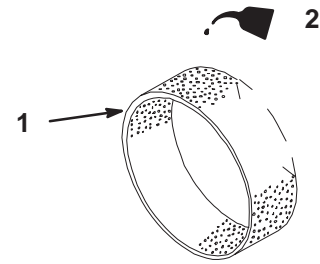

Figure 11
3. Put one or two ounces of oil on the element (Fig. 11). Squeeze the element to distribute the oil.